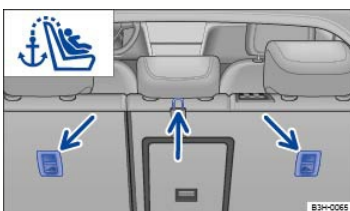

Fig. 52 Anchorages for the top tether strap on the back of the rear seat.
- Locate the tether anchor behind the rear seat backrest ⇒ Fig. 52.
- Attach the tether strap anchorage hook into the opening of the tether anchorage ⇒ Fig. 52.